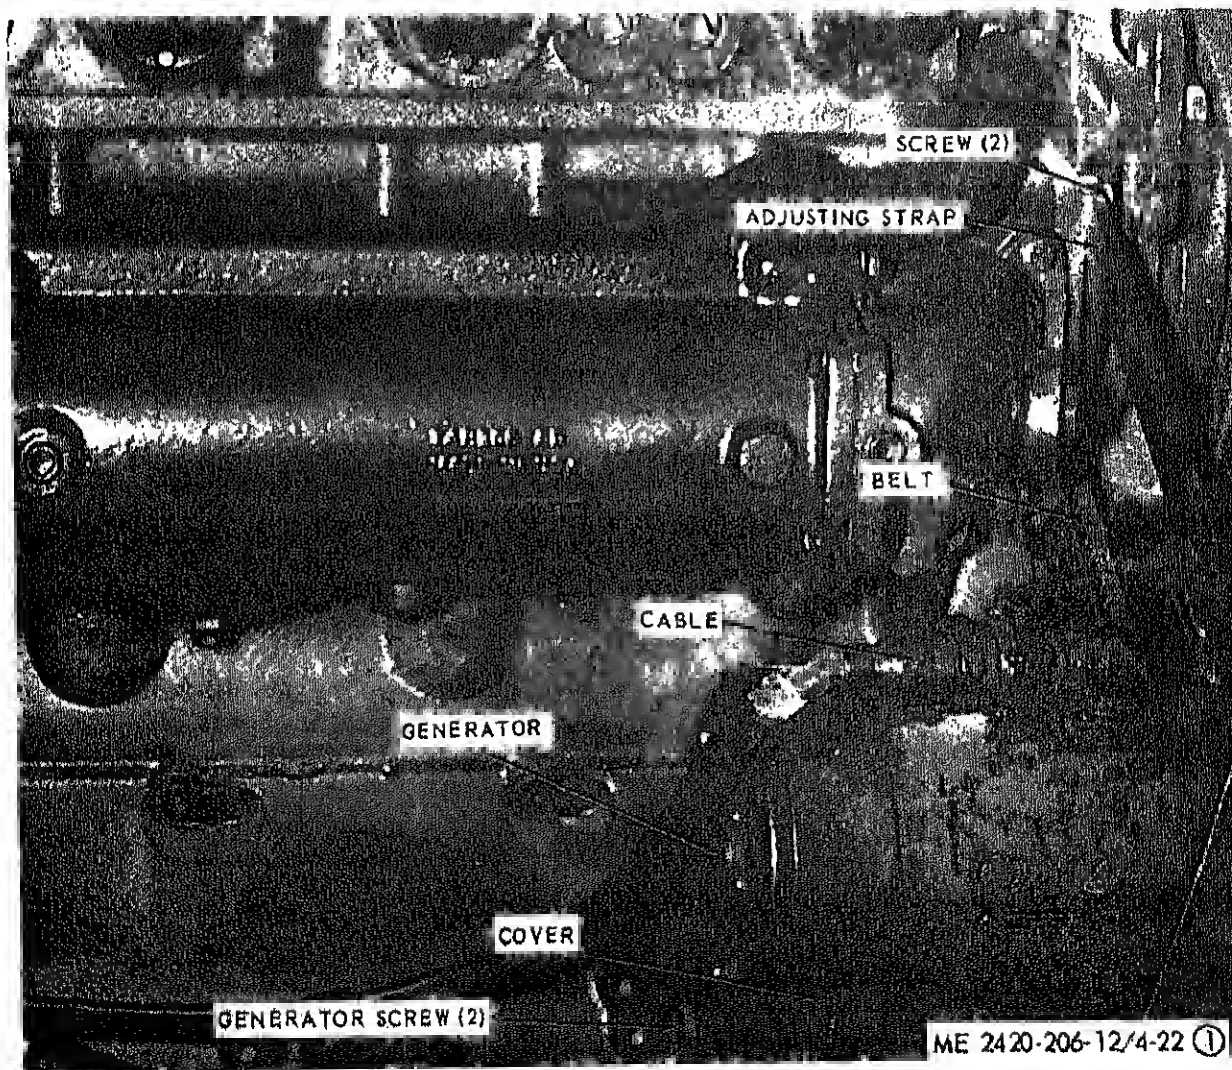

Figure 4-22. Generator repair, removal and installation (sheet 1 of 2)
(1) Remove generator drive belt as illustrated in figure 4-22.